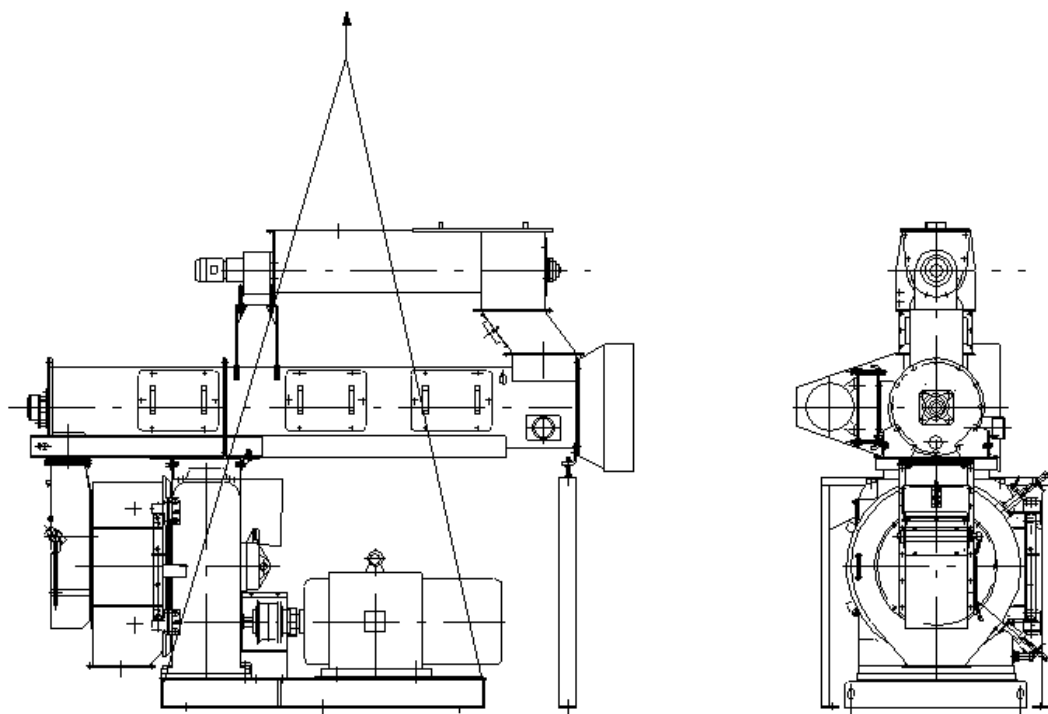

Fig.21 Hoisting
9.5 See Figure 21 for hoisting.